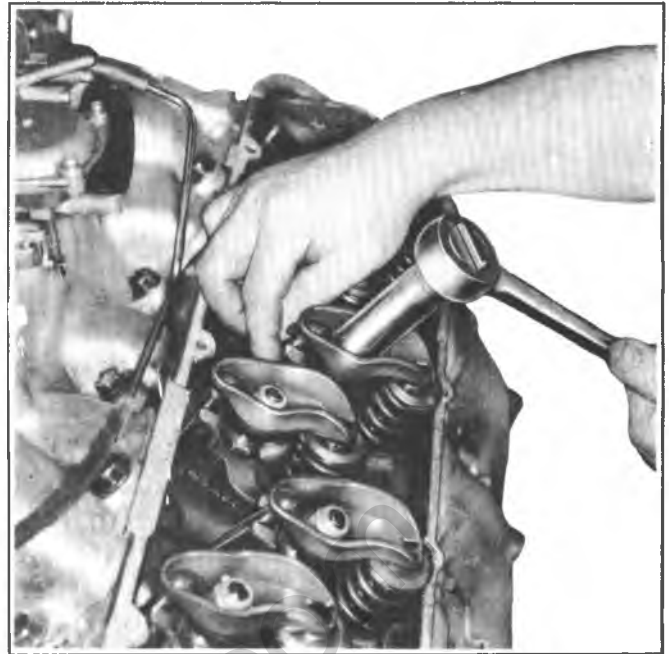

Fig. 6A5-11--Valve Adjustment
- c. Back out adjusting nut until lash is felt at the push rod then turn in adjusting nut until all lash is removed. This can be determined by rotating push rod while turning adjusting nut (fig. 6A5-11). When play has been removed, turn adjusting nut in one full additional turn (to center lifter plunger).